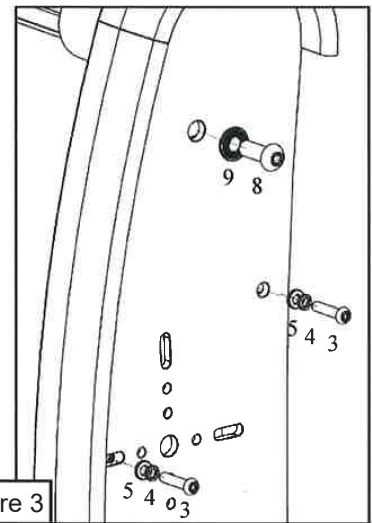

Figure 3
4. Install M10 Hardware (Items 8 and 9) and M6 hardware (Items, 3, 4, and 5) as shown in Figure 3.